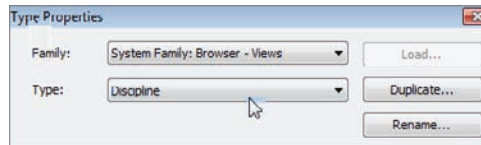

FIGURE 8.71 Changing Type to Discipline
6. Change Type to Discipline, as shown in Figure 8.71, and then click OK.